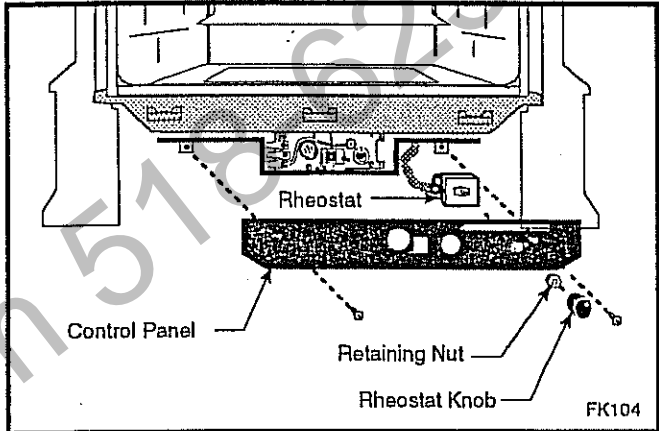

Fig. 36 Attach the rheostat to the control panel.
- Align the switch box with the hole in the right side of the Panel, aligning the locator pin with the smaller hole in the panel. (Fig. 36)